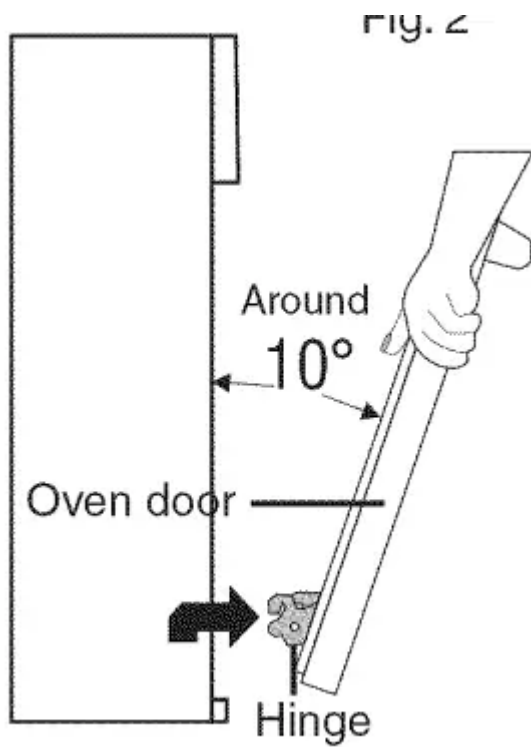

Fig. 3
3. Firmly grasp both sides of oven door along the door sides (Do not use the oven door handle- See Fig. 3).